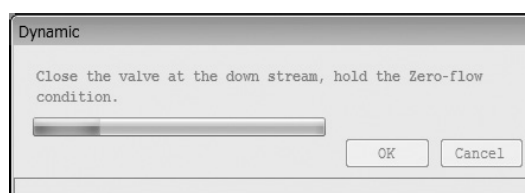

Fig.124
- ④ During the check, a progress bar will appear as shown in Fig. 124, allowing for the confirmation of the state of the check.